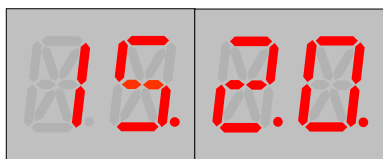

Figure 8e: New stored Bit value.
- 5. UP and DOWN will move the Bit value between 0 and 1. Press SELECT to store the displayed value. See **Figure 8e**.